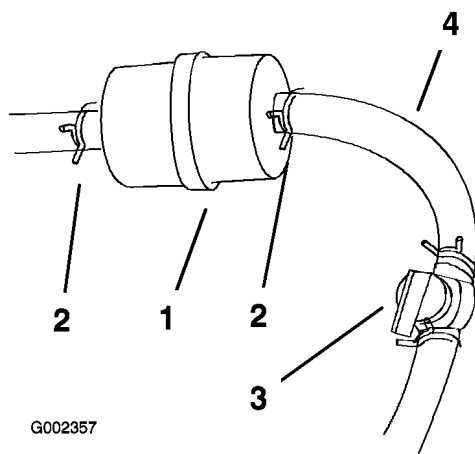

Figure 39
4. Close the fuel shutoff valve (Figure 39).
5. Squeeze the ends of the hose clamps together and slide them away from the filter (Figure 39).
7. Install a new filter and move the hose clamps close to the filter (Figure 39).
3. Close the fuel shutoff valve (Figure 39).
4. Loosen the hose clamp at the fuel filter and slide it up the fuel line away from the fuel filter (Figure 39).
5. Disconnect the fuel line from the fuel filter (Figure 39).
Note: Allow gasoline to drain into a fuel container can or drain pan (Figure 39).
7. Install the fuel line onto the fuel filter. Slide the hose clamp close to the fuel filter to secure the fuel line (Figure 39).